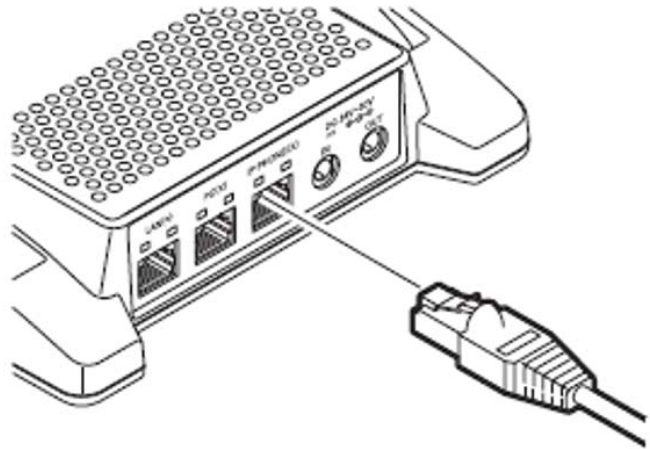

Figure 6-56 IP Phone(X) Connection
13. Install the NEC provided Cat 5 Ethernet cable (refer to Figure 6-56 IP Phone\(X\) Connection).